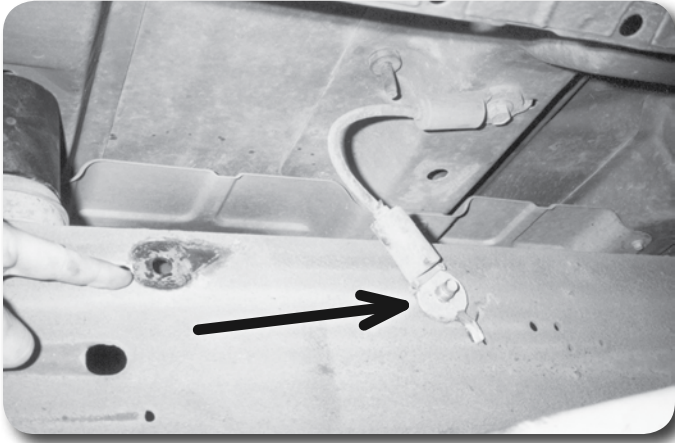

Figure 22
58. On the frame, about 8" forward of the original mounting hole is an existing hole (on both frame rails) where the safety cable can be relocated **Figure 22**.